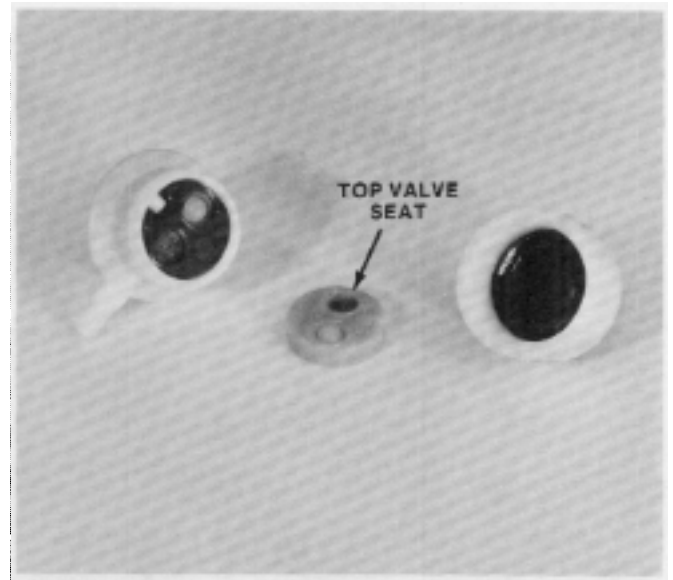

Figure 44
3. Carefully lift out the top valve seat with the valve cushion, and two ball valves. See Figure 44